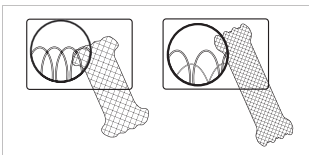

Fig. 2a
- Both ends of the stent are pliable and smooth enough without any sharp corners or burrs. This design can reduce risks of injury to the intestinal tract. (Refer to Fig. 2a)